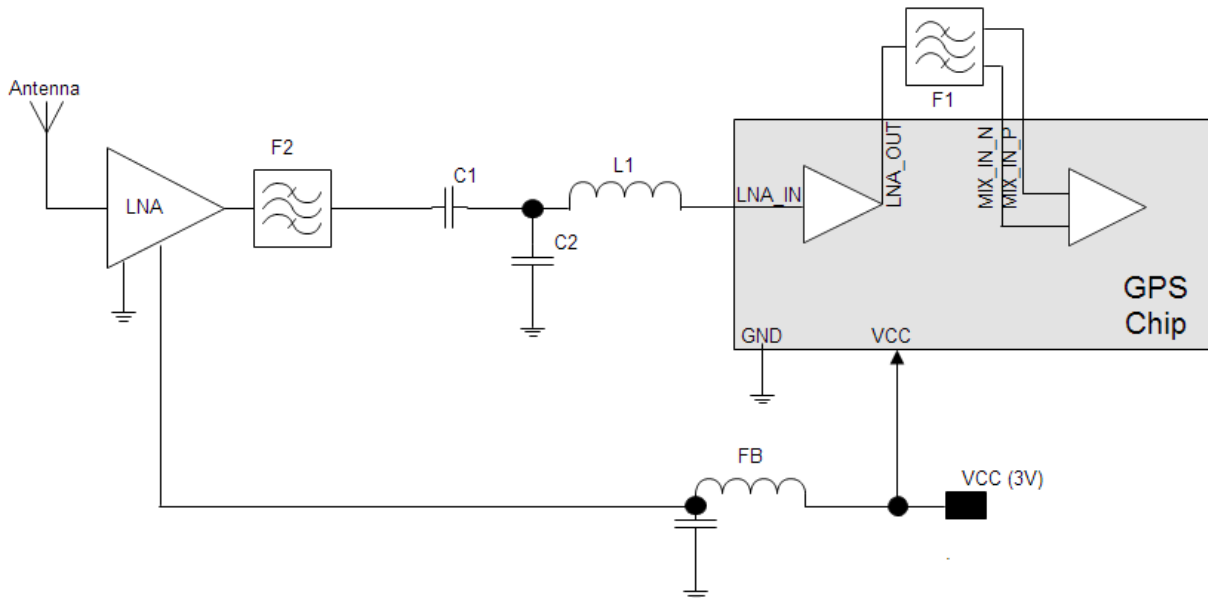

Figure 14: Chipset design with passive antenna
Figure 14 shows a GPS & GLONASS passive antenna design with chipset. For best performance with passive antenna designs use an external LNA.
- ☞ For recommended SAW Filters for GPS & GLONASS (Part F2 in Figure 14) see section 3.5.1
- ☞ For recommended RF bandpass SAW filter balanced type (50 Ω//100 Ω) for GPS/GLONASS (part F1 in Figure 14) see section 3.5.2